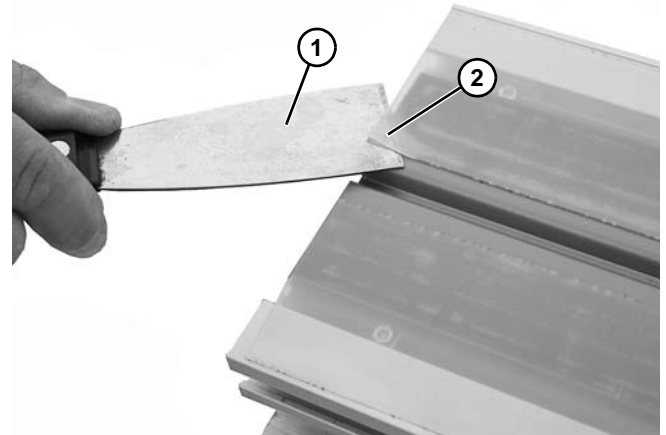

Figure 46
2. With a putty knife (Figure 46, item 1), start by raising edge of wear strip (Figure 46, item 2).